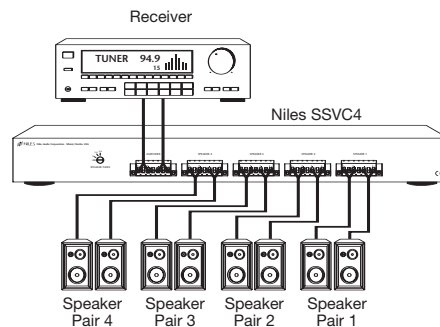

Figure 1
2. Run all the necessary wiring to the SSVC-2/4/6 . Label the wires for future reference. See (Figure 1).